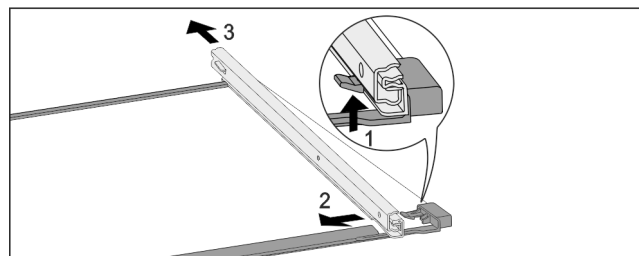

Fig. 183 Glass shelf with rails
- ▶ Push up front click-in hooks. Fig. 183 (1)
- ▶ Slide pull-out rails to the side Fig. 183 (2) and backwards Fig. 183 (3).